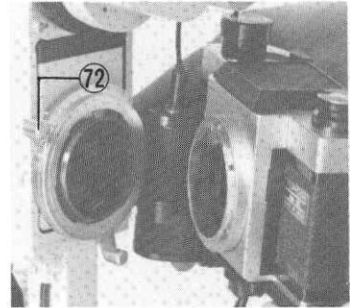

Fig. 74
- (b) Move the camera fixing lever, on top of the camera attachment mount of the photographic attachment, upwards, insert the camera body mount over the camera attachment mount and then lower the fixing lever which will fix the camera body securely. (See Fig. 74)